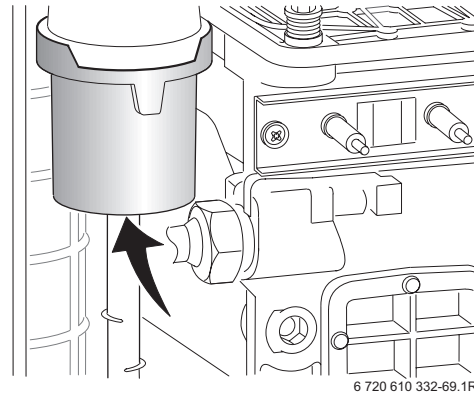

Fig. 50
- ▶ Unscrew the two fixing screws and carefully remove the electrode assembly. Refer to fig. 50.